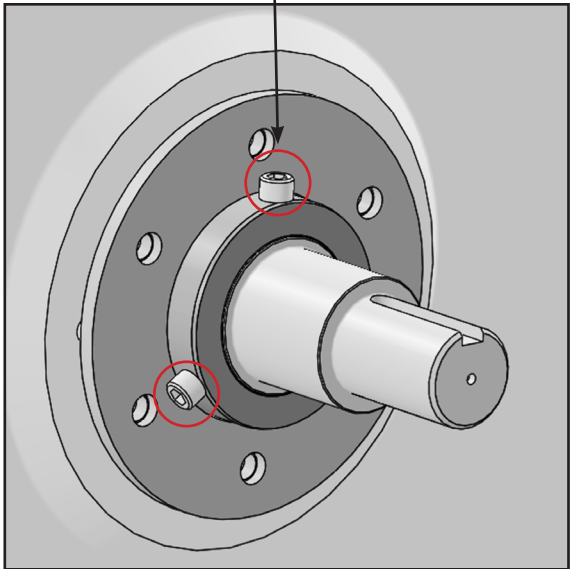

FIGURE 27
- 15. Install the three supplied puller tool kit fasteners (Kit# 100-123-339 "VJX SMALL SS BSHG REPLT KIT") as shown (Figure 27). Ensure bolts do not bottom out on rotor shaft.